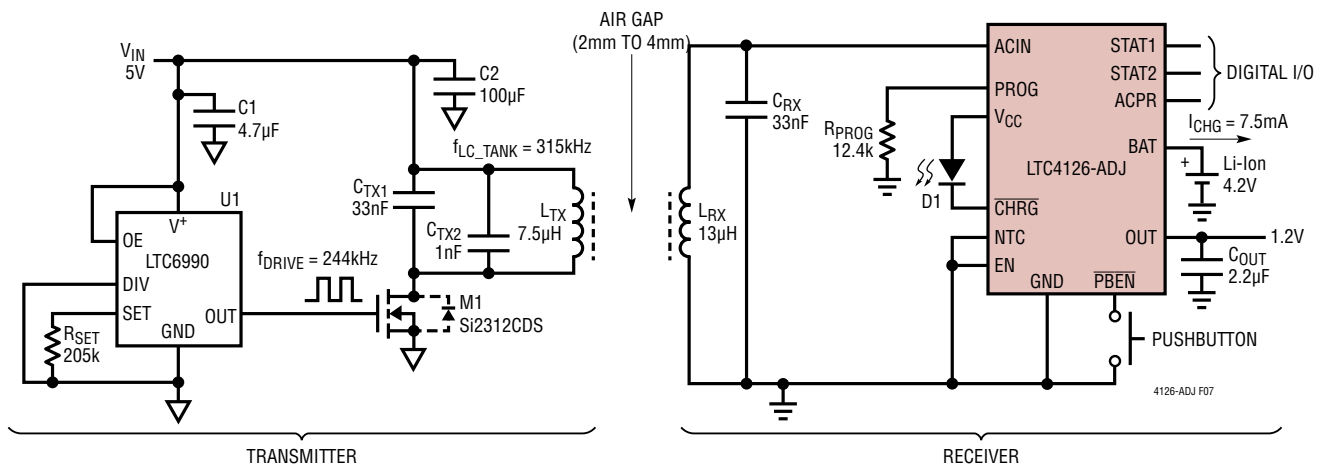

Figure 7. DC/AC Converter, Transmit/Receive Coil, Tuned Resonant LTC4126-ADJ Receiver (See Table 4 and Table 5 for Recommended Components)
The single transistor transmitter shown in Figure 7 is an example of a DC/AC converter that can be used to drive AC current into a transmit coil, LTX.
As discussed in the previous section, the supply voltage ( $V_{IN}$ ) can be used to adjust the transmit power of the transmitter shown in Figure 7. Transmit power should be set as low as possible to receive the desired output power under worst-case coupling conditions (e.g. maximum transmit distance with the worst-case misalignment). Although the LTC4126-ADJ is able to shunt excess received power to maintain the  $V_{CC}$  voltage in the desired range, it has the adverse effect of raising the die temperature and possibly the battery temperature, and if the battery temperature exceeds the Too Hot temperature threshold set by the thermistor, the charger pauses charging the battery.
The example in Figure 7 illustrates the design of the resonant coupled single transistor transmitter and LTC4126-ADJ charger. The steps needed to complete the design are reviewed as follows.
To ensure optimum performance from the LTC4126-ADJ, use the components listed in Table 4 and Table 5 for the receiver and transmitter, respectively, as shown in Figure 7. Select receive and transmit coils with good quality factors to improve the overall power transmission efficiency. Use a ferrite core to improve the magnetic coupling between the transmit and receive coils and to shield the rest of the transmit and receive circuitry from the AC magnetic field. Capacitors with low ESR and low thermal coefficients such as COG ceramics should be used in the transmit and receive LC tanks.
**Table 4. Recommended Components for the Receiver Shown in Figure 7**
**Table 5. Recommended Components for the Transmitter Shown in Figure 7**